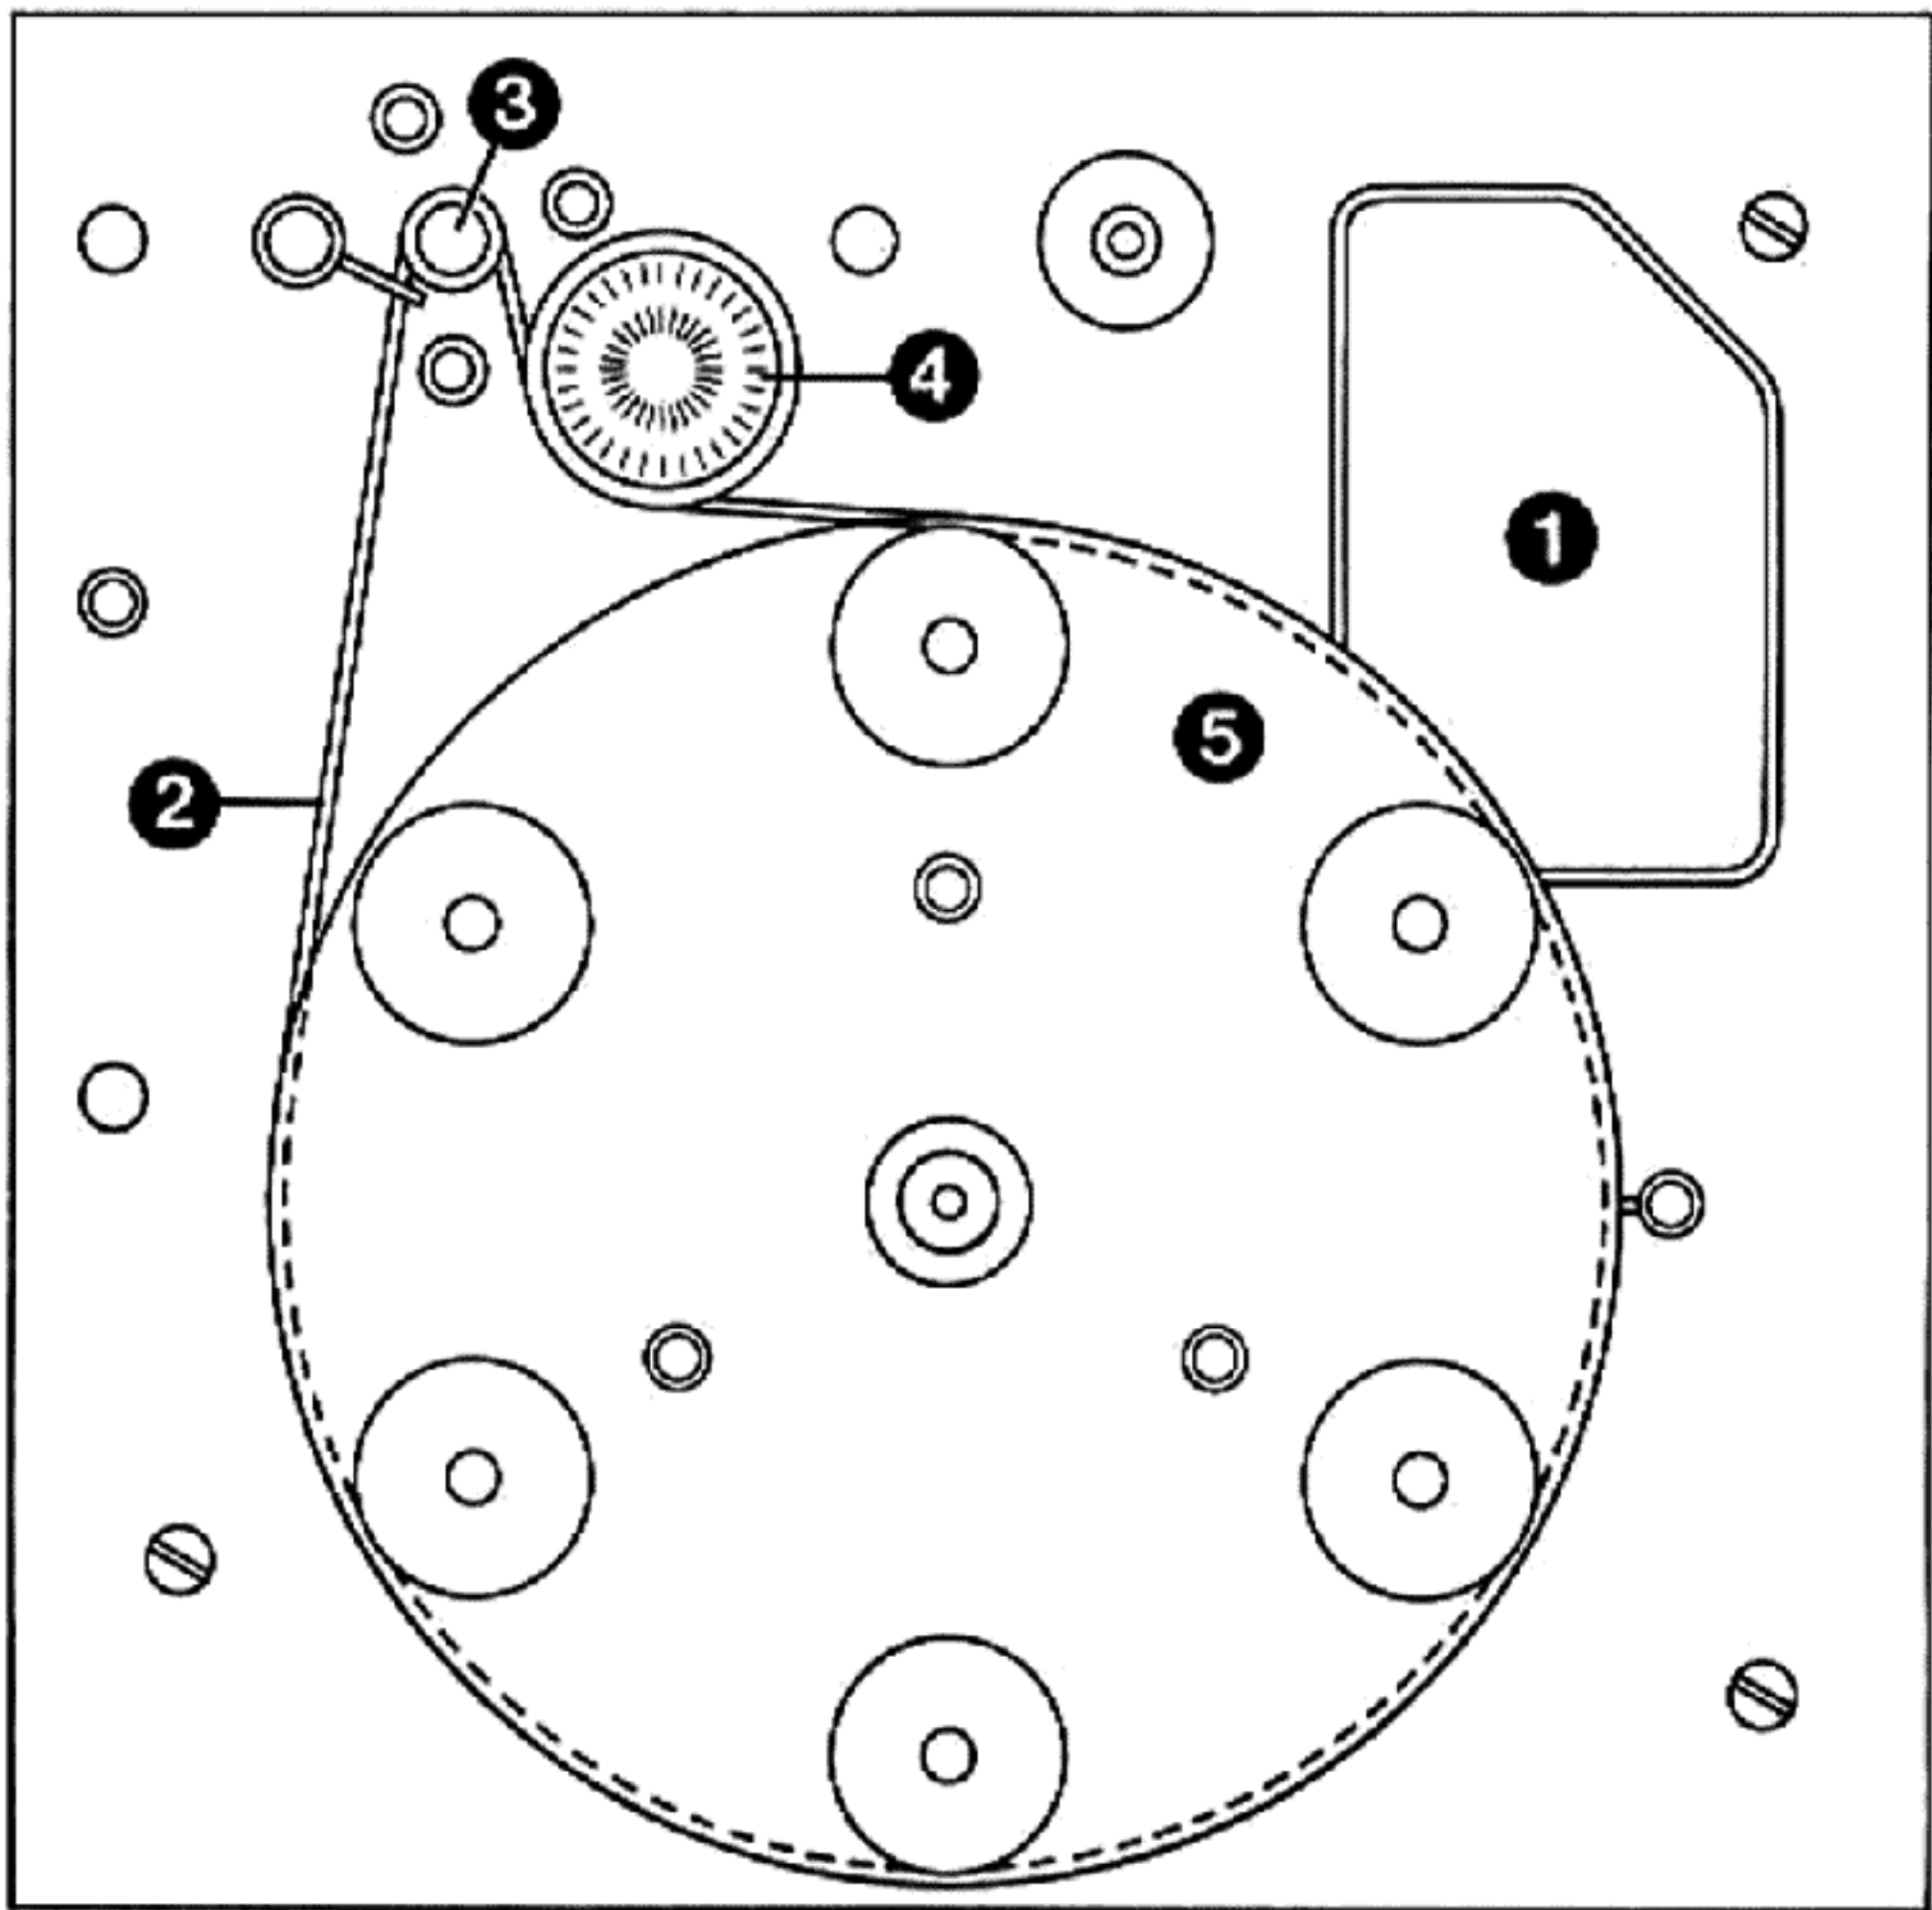
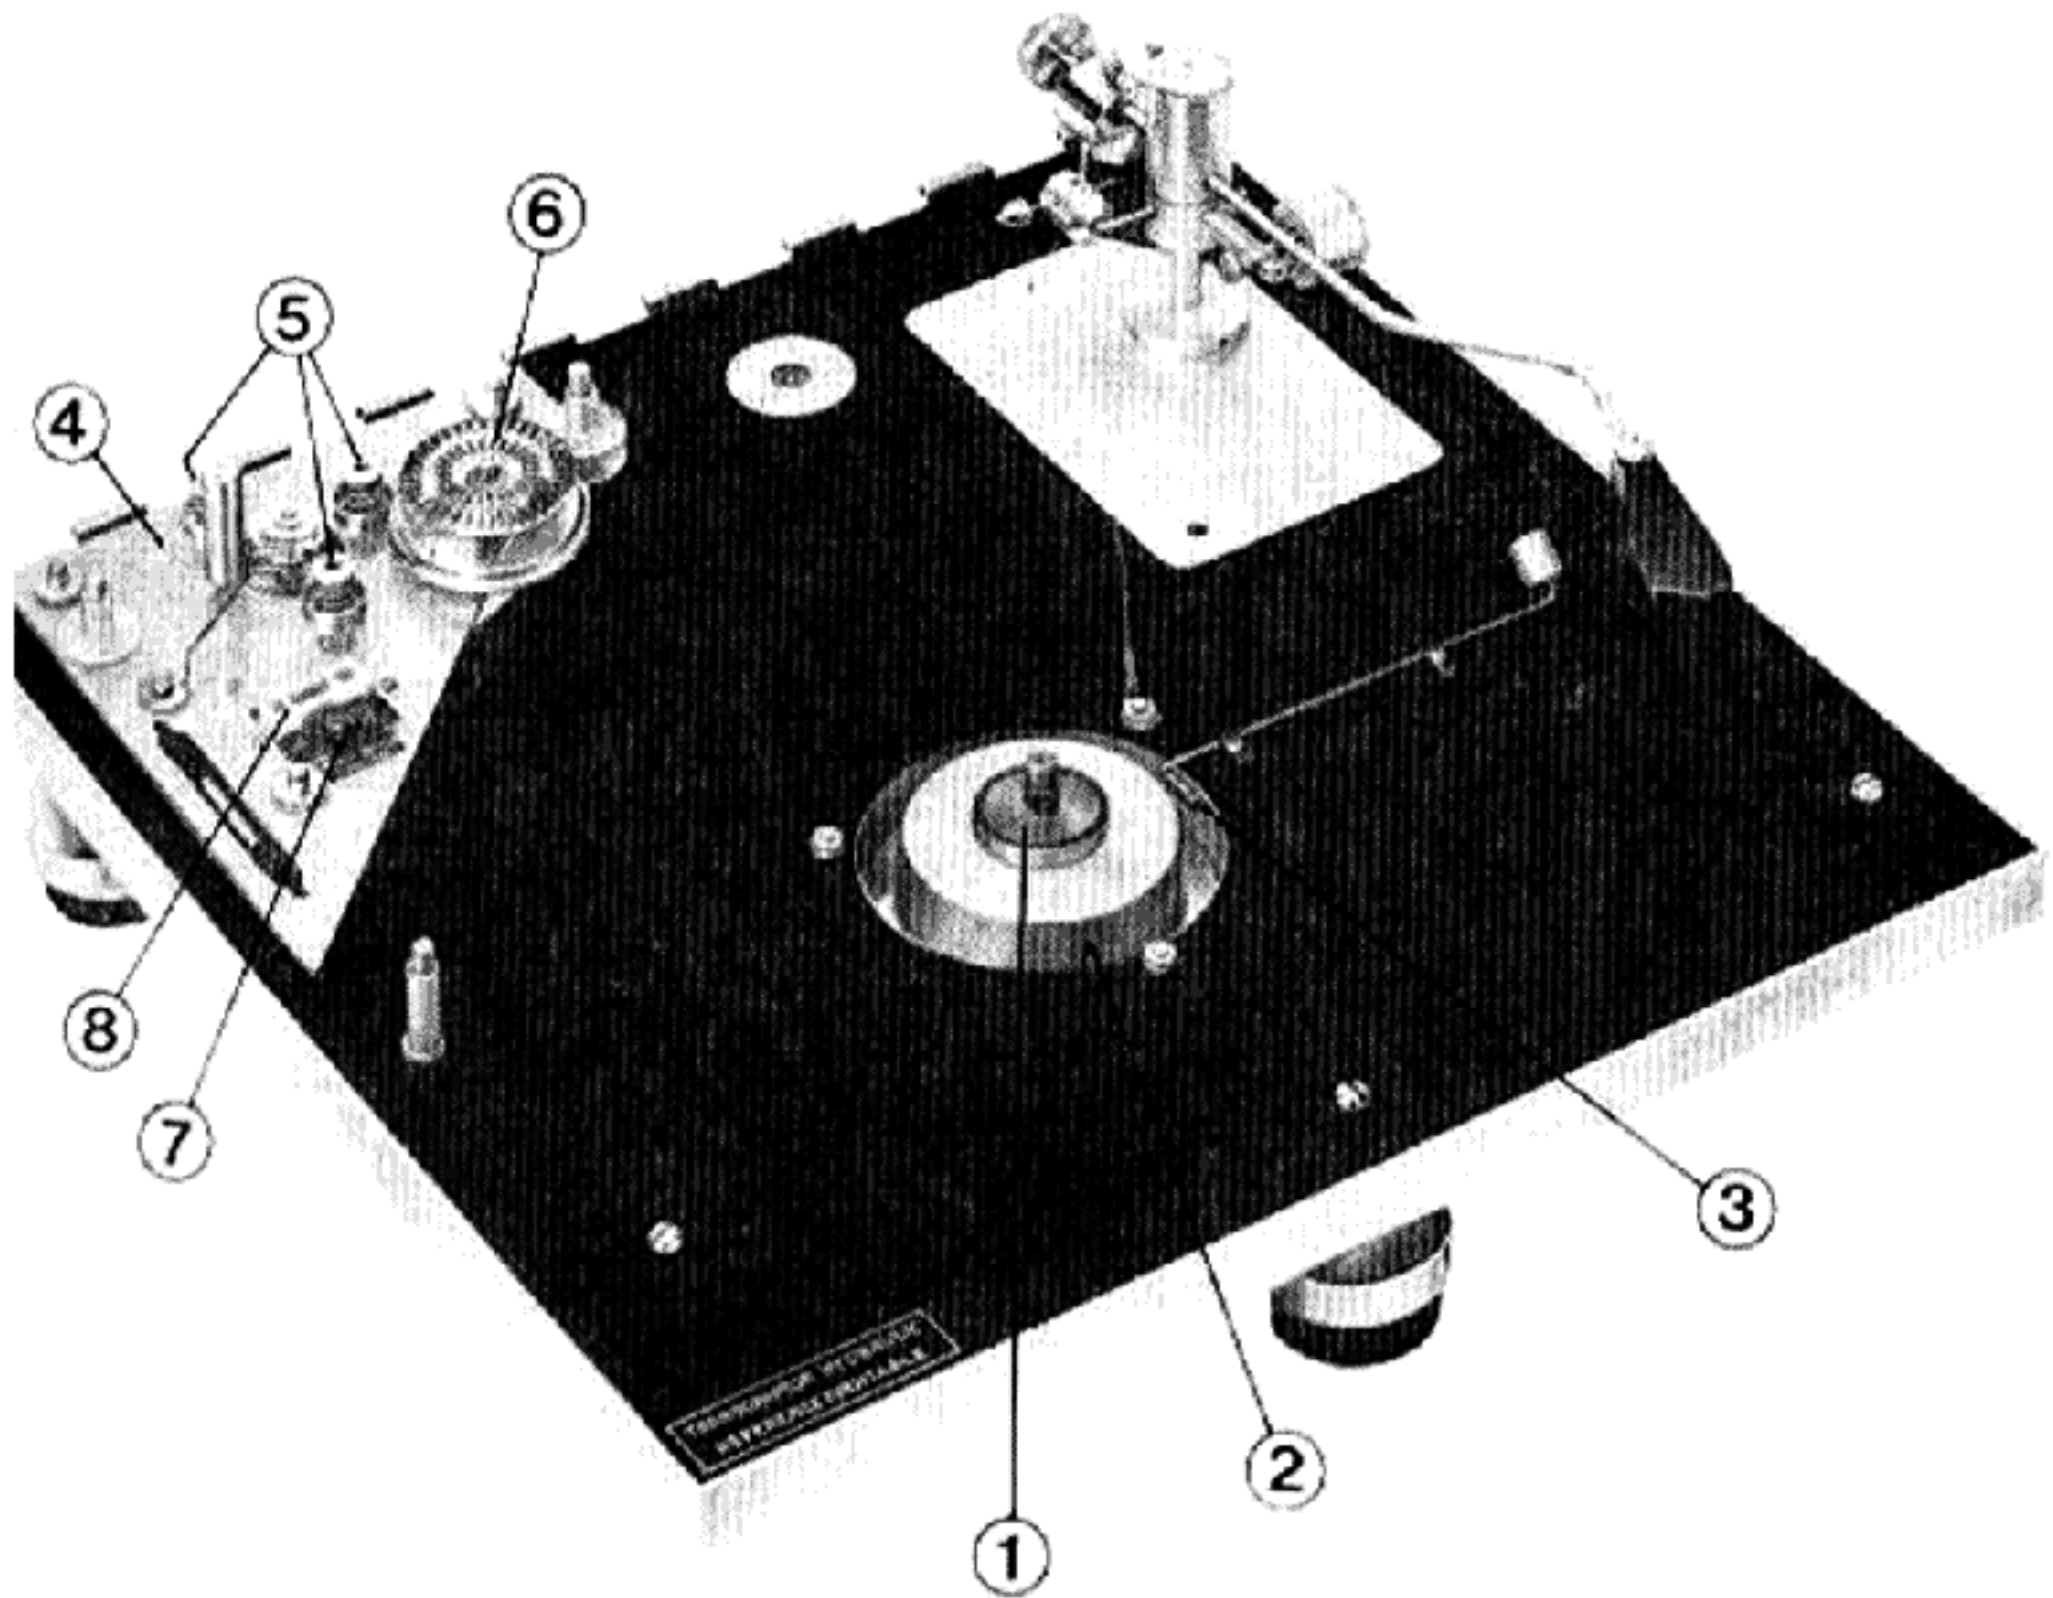
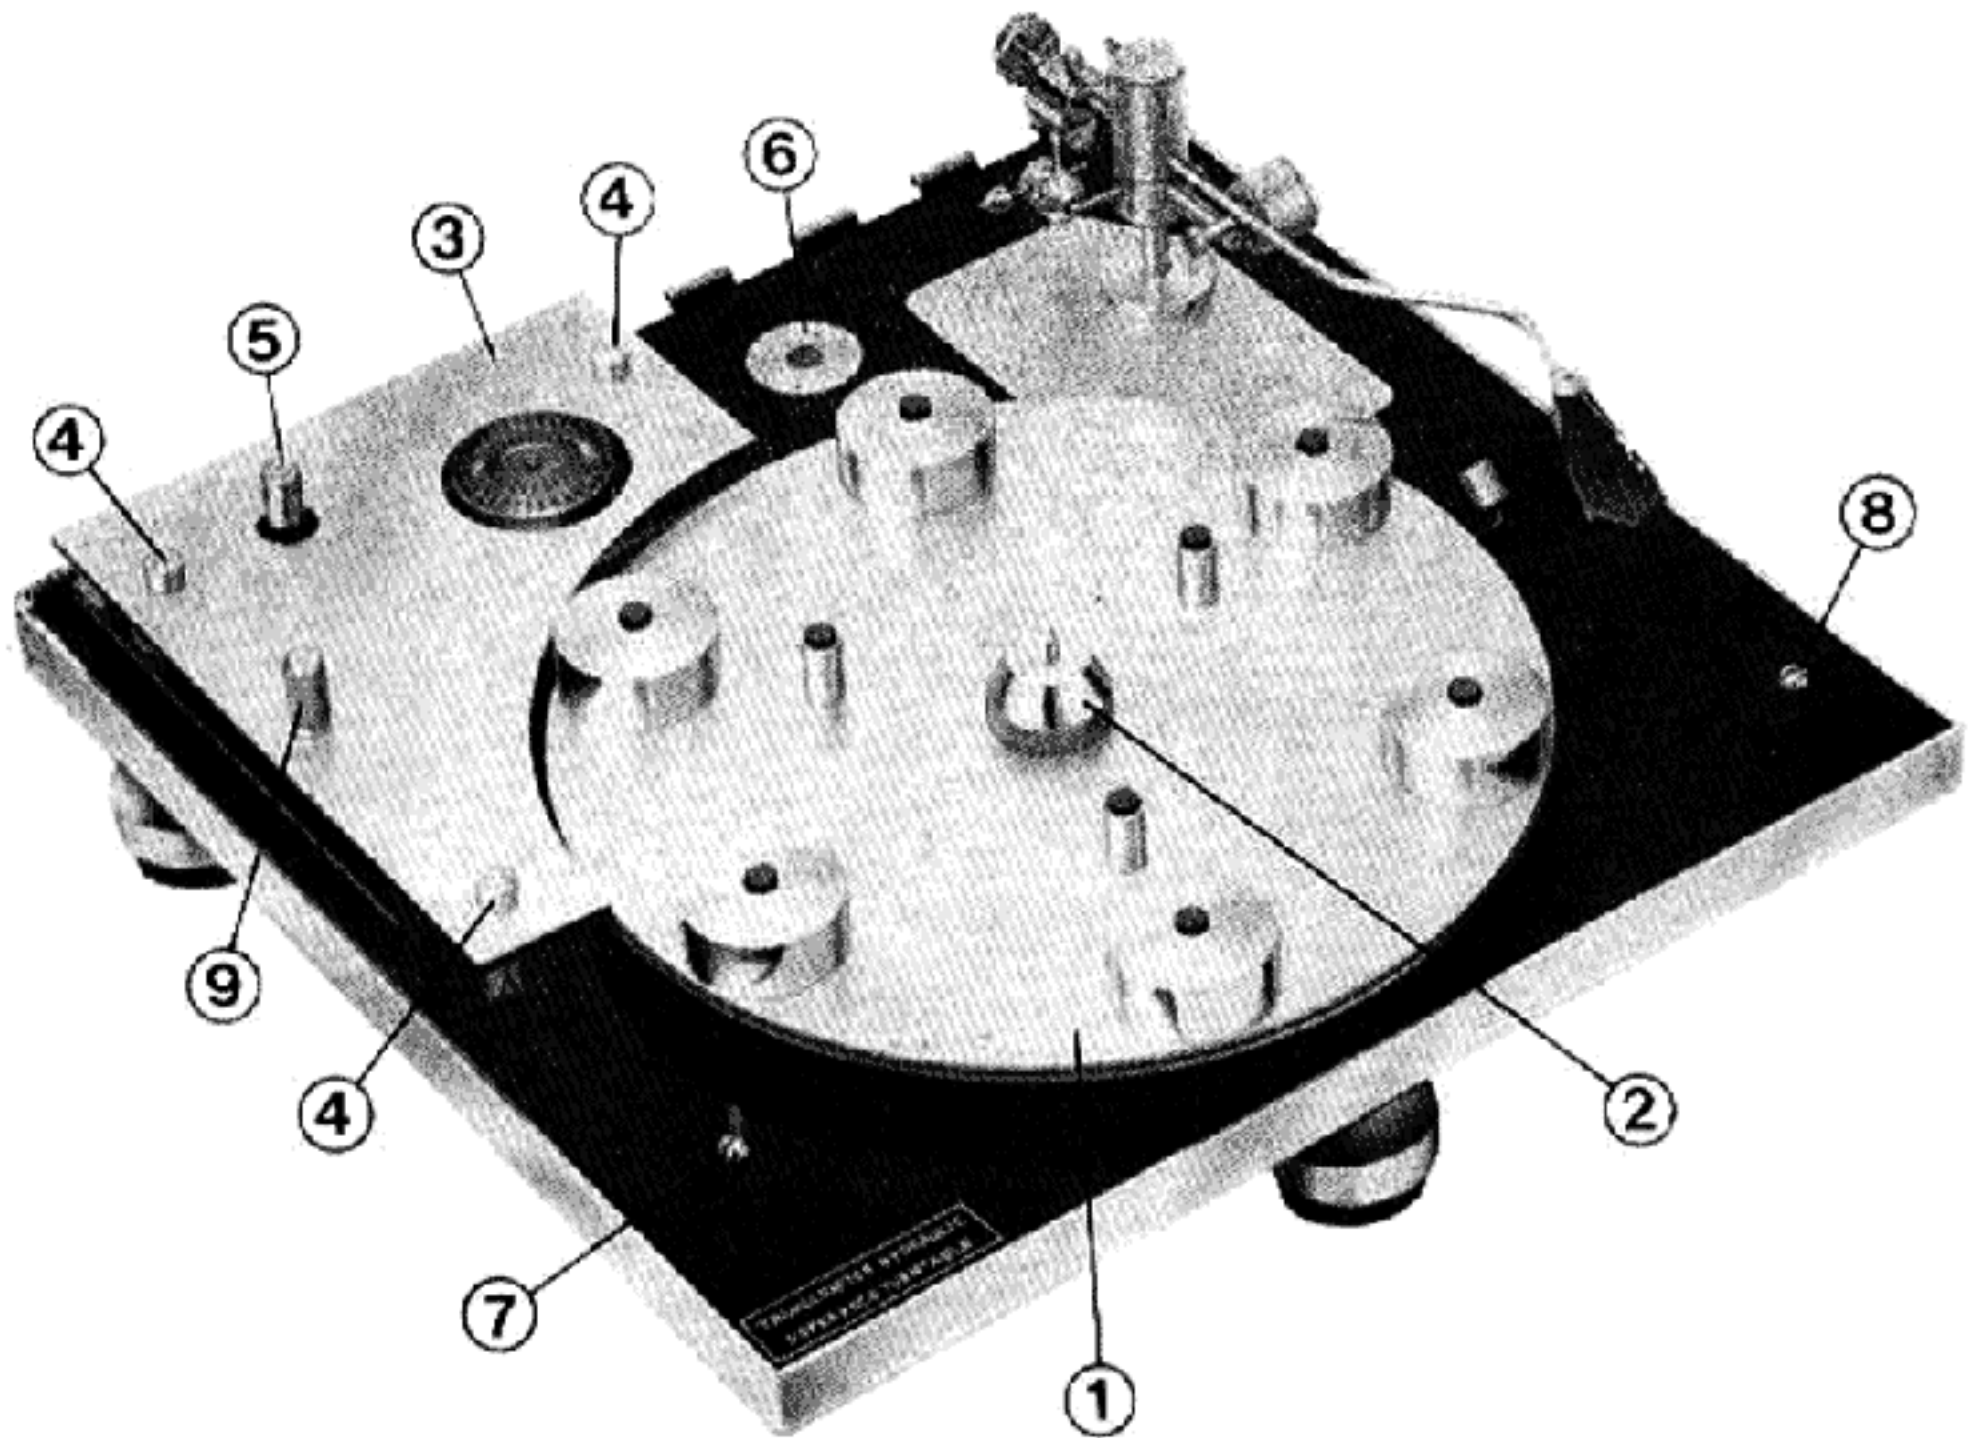

Fig. 2
Fig. 3
Fig. 4
If the TRANSCRIPTOR Fluid Arm has not been fitted onto the tone arm board, fig. 2(1), proceed as follows. However, if it has been fitted, proceed with the setting-up instructions.
- 2** Fill the fluid well, fig. 3(2), surrounding the main bearing, fig. 3(1), with the fluid supplied in the large bottle. All the fluid should be used.
- 3** Ensure that the speed control vane, fig. 3(3), is immersed in the fluid.
- 4** Secure the platter, fig. 4(1), to the centre bearing with the knurled retaining nut, fig. 4(2), after first ensuring that the mating surfaces are clean.
- 5** Ensure that the motor assembly, fig. 3(4), is floating correctly and that its three support springs, fig. 3(5), are seated in their cups correctly. Any temporary misalignment that may have occurred during transit can be corrected simply by holding the motor under the motorboard and pulling it downwards.
- 6** Lightly oil the stroboscope spindle and then fit the stroboscope, fig. 3(6), onto its bearing.
- 7** Fit the drive belt, fig. 2(2), as shown in fig. 2.
- 8** Ensure that the mains voltage adjustment plug, fig. 3(7), has been set for the correct voltage, and that a fuse, fig. 3(8), of the correct rating has been fitted.
- 9** Assemble the top plate, fig. 4(3), onto the unit and secure it with the three retaining nuts, fig. 4(4).
- 11** Close the cover and level the unit by means of the three adjustable legs, using the bubble level indicator, fig. 4(6), on the motorboard.
NOTE: The Sweep Arm is available separately as an accessory. If the sweep arm, (fig. 5) has not been fitted by the manufacturer, a pre-drilled fixing hole blanked off with a chromium screw, fig. 4(7), will be found on the left hand side of the motorboard. Remove this screw, insert the sweep arm support rod and secure with its wing nut under the motorboard.
If the stylus brush (fig. 5) has not been fitted by the manufacturer, a pre-drilled hole blanked off with a chromium screw, fig. 4(8), will be found on the right hand side of the motorboard. Remove this screw, insert the stylus brush support rod and secure with its wing nut under the motorboard.
The turntable drive is switched on or off simply by rotating the knob, fig. 4(9), on the top plate through 90°.
Fine speed control is by means of the hydraulic damping vane, fig. 3(3), the control knob for which is on the right-hand side of the platter. Switching between 45 r.p.m. and 33½ r.p.m. is by means of the knob, fig. 4(5), protruding through the top plate—push down for 45 r.p.m., pull up for 33½ r.p.m. This speed change operates only while the motor is running.
- 1** Periodically examine the drive belt, fig. 2(2), for signs of perishing or cracking. Renew if necessary.
- 2** Every 12 months, lightly oil the stroboscope and main bearings (use a sewing machine oil, or similar). Access to the main bearing is obtained by removing the platter, fig. 4(1), sliding the speed control vane, fig. 3(3), to one side and lifting out the fluid well, fig. 3(2).
NOTE: To remove platter, remove belt, fig. 2(2); unscrew platter retaining nut, fig. 4(2), then, placing fingers of both hands beneath rim and one thumb on main bearing, fig. 3(1), lift with fingers and press down on main bearing. To prevent damage to the fluid well and the speed control vane a mating paper washer "weak link" is fitted between the platter mounting spindle and the fluid well.